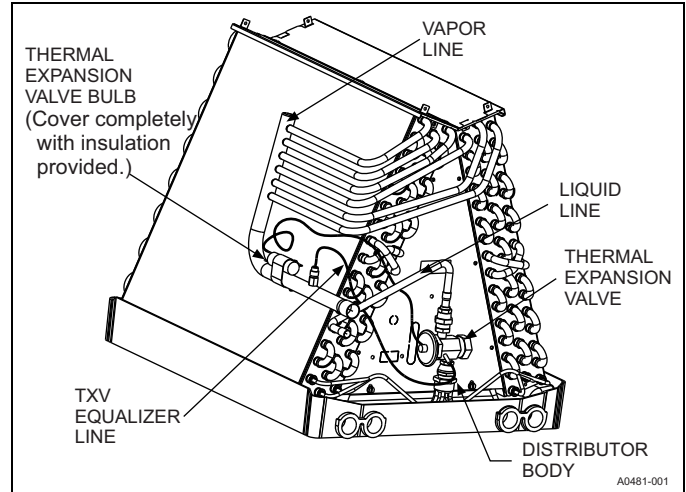

FIGURE 1: Kit Installation in System
4. Install the thermal expansion valve to the orifice distributor assembly with supplied fittings. Orient the TXV as shown in Figure 1. Hand tighten and turn an additional 1/4 turn to seal. Do not overtighten fittings.